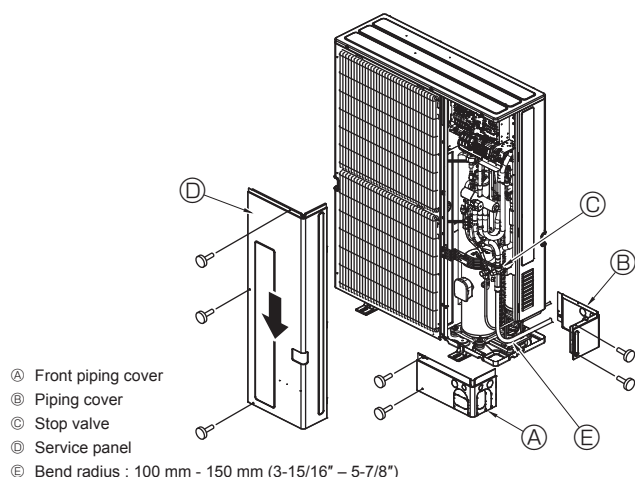

Fig. 4-8
4.4. Refrigerant piping (Fig. 4-8)